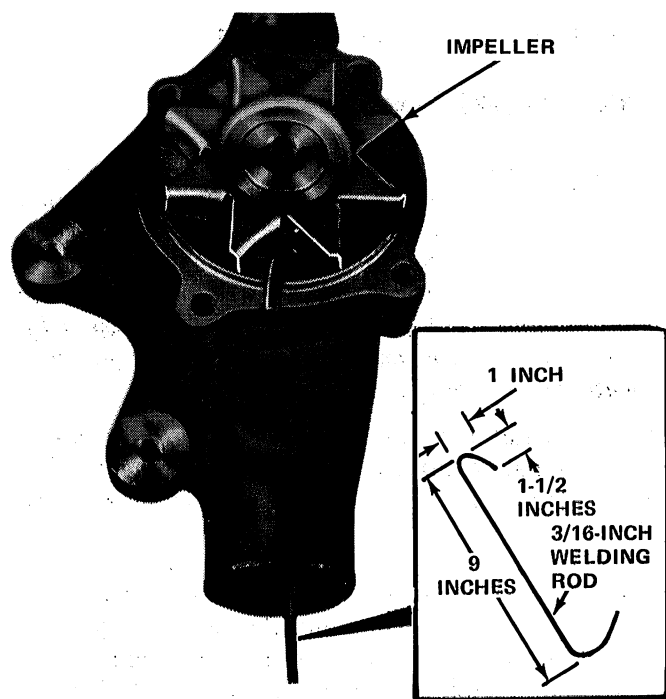

Fig. 1C-5 Testing Water Pump for Loose Impeller—Typical
- (1) Drain cooling system.
- (2) Loosen fan belt.
- (3) Disconnect lower radiator hose from water pump.
- (4) Bend stiff clothes hanger or welding rod (fig. 1C-5).
- (5) Position rod in water pump inlet and attempt to hold impeller while turning fan blades. If impeller is loose and can be held with rod while fan blades are turning, pump is defective. If impeller turns, pump is OK.
- (6) Connect hose and install coolant, or proceed with further repairs.